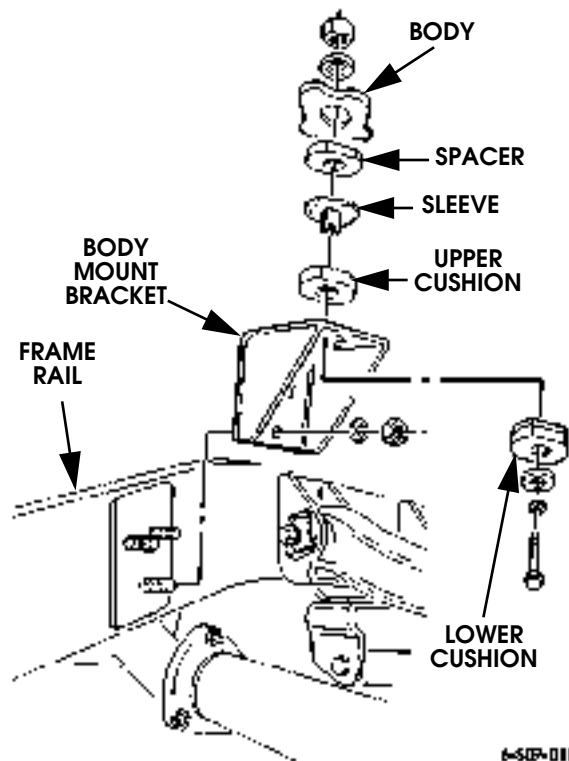

Figure 9-136: Left Intermediate Body Mount Bracket Replacement
3. Remove three locknuts, washers, and body mount bracket from frame rail (Figure 9-136).
1. Install body mount bracket on three bolts and frame rail with three washers and locknuts. Tighten locknuts to 90 lb-ft (122 N•m) (Figure 9-136).